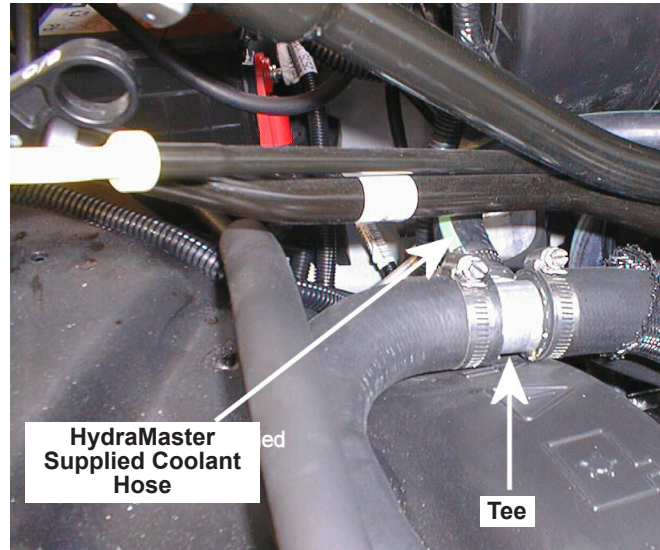

Figure 20. Cut Hose in Half and Install Tee
- Cut the hose in half and install the tee. The tee needs to be pointing up and slightly towards the front of the van (see Figure 20).